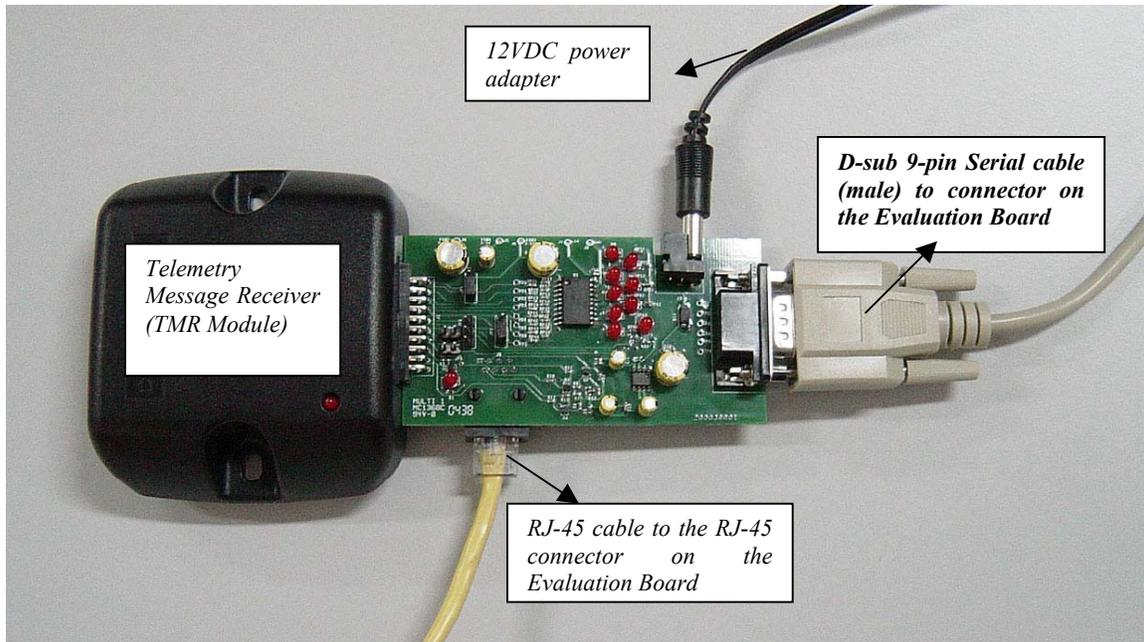

Figure 1. Evaluation Kit set-up with TMR module, Evaluation Board and various cables.
1. Plug the TMR module 20-pin connector into the Evaluation Board 20 pins connector (Fig. 1).
2. Connect RJ-45 connector to the RJ-45 Jack on the Evaluation Board (Fig. 1). Connect DB25-pin connector of the programming cable to Parallel Port on PC (Fig.2). *(This connection need only be made if the TMR will be re-programmed with a new frequency or CAP code.)*
3. Connect the male portion of the D-Sub 9-pins serial cable to connector on the Evaluation Board (Fig. 1). Connect female portion of the D-Sub 9-pins serial cable to the Serial Ports (COM ports) on PC (Fig.2).